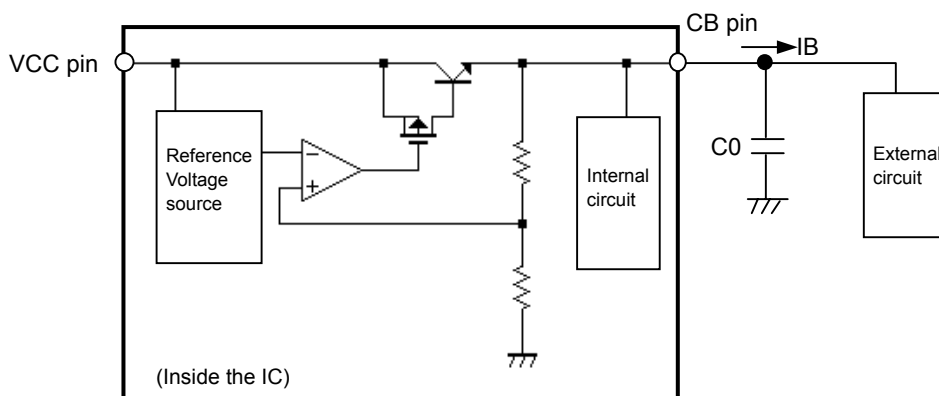

Fig. 5-8. Equivalent circuit for the VB power supply
- The VB power circuit constitutes a feedback circuit (see Fig. 5-8). To prevent oscillation, connect a capacitor C0 to the CB pin.